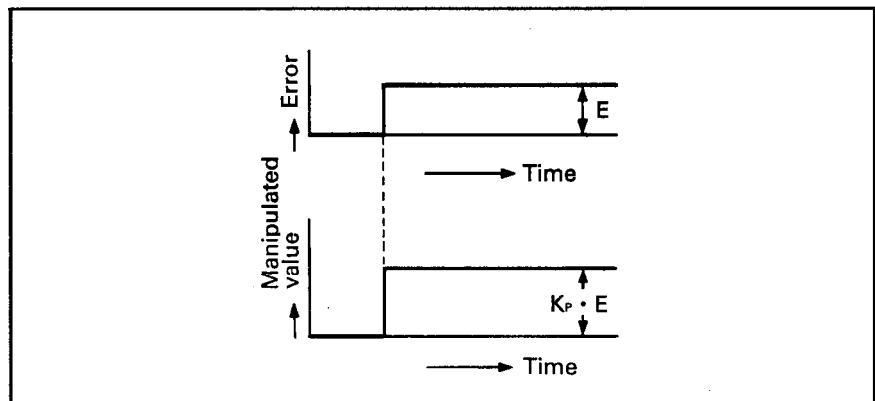

Fig. 4.2 Proportionate Operation with a Constant Error
- (3) The proportionate operation in step response with a constant E (error) is illustrated in Fig. 4.2.